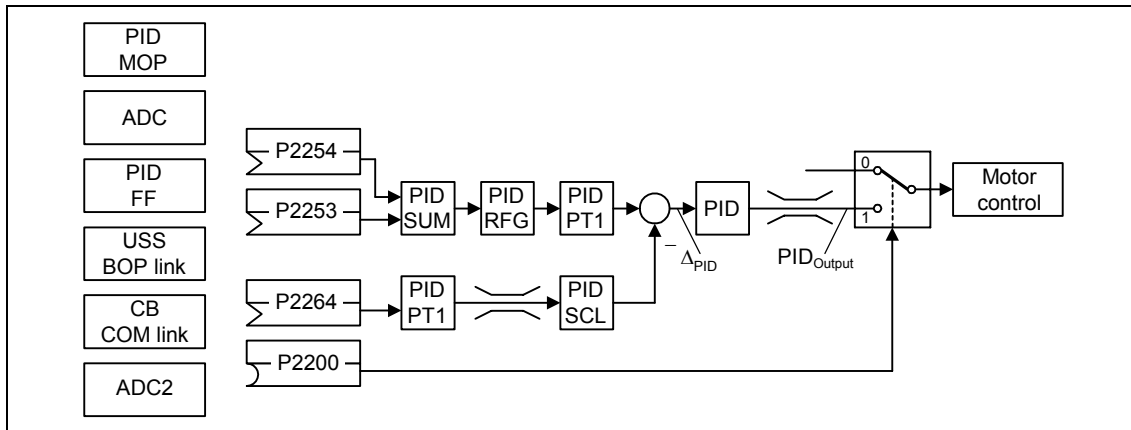

Figure 10-10 PI Basic Block Diagram
The error signal processing can be very complex because of delays in the system. The error signal is usually processed using a Proportional and Integral (PI) controller whose parameters can be adjusted to optimize the performance and stability of the system. Once a system is set up and stable, very efficient and accurate control can be achieved. See Figure 10-10.
A block diagram showing the relationships and interaction between PI Setpoint and PI Feedback is shown in Figure 10-10.